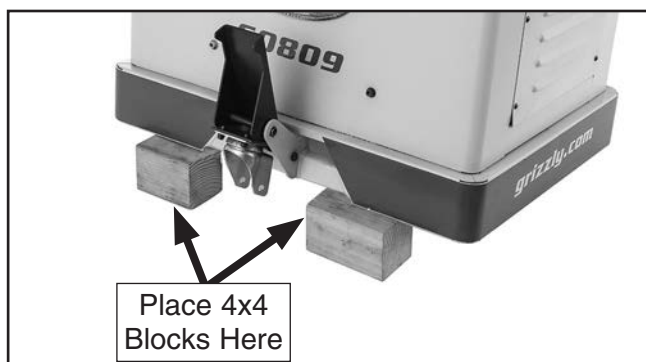

Figure 15. 4x4 block placement beneath cabinet.
6. Lift front side of cabinet and place 4x4 wood blocks under cabinet, as shown in **Figure 15**.